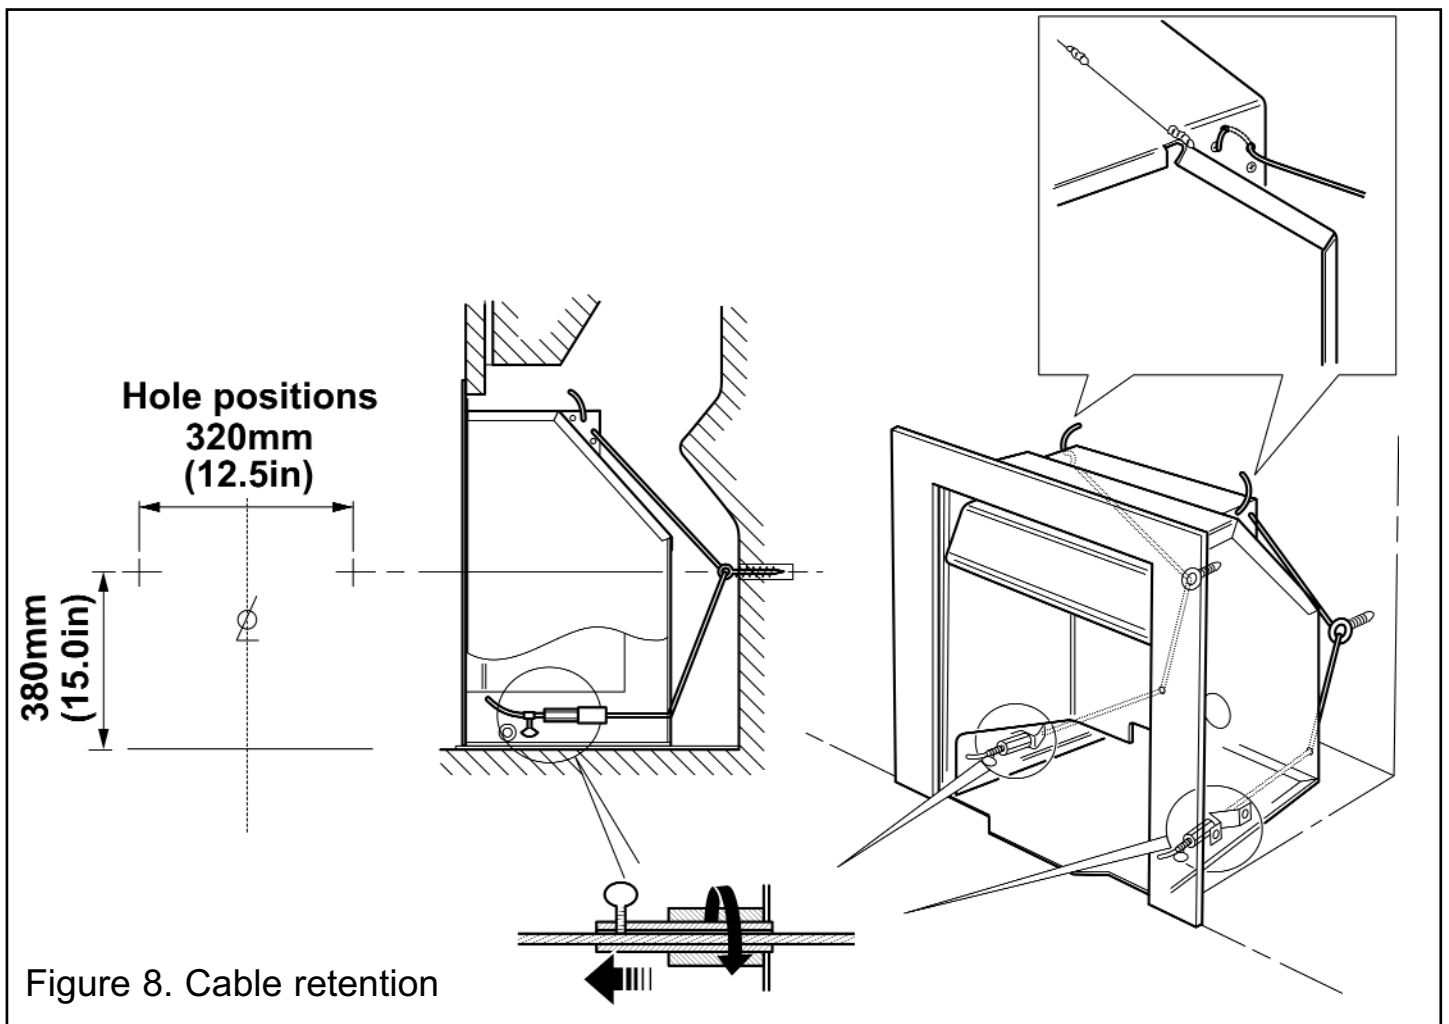

Figure 8. Cable retention
1. Drill two holes in the rear wall of the fireplace for the eyebolt plugs. The holes should be drilled in the positions shown in figure 8 using a suitably sized masonry drill for the wall plugs supplied. The holes should be equidistant each side of the centre line of the fireplace to ensure that the appliance finishes centrally in the opening when tension is applied to the cables.
**4.** The convection box has two holes at each end of the debris deflector (See figure 8). Insert one end of each cable (one cable each side) from the back through the lower of the two holes and return the end through the upper of the holes (See figure 8). Give the cables a pull so that they grip against the debris deflector sides.
**5.** Thread the cables through the eyebolts. Return the cables through the holes near the bottom of the convection box back panel and through the brackets near the bottom of the convection box sides (See figure 8).
**8.** Pull each cable taut. Push the cable retainers hard up against the brackets. Tighten the screws in the retainers so that they clamp the cables in position. Apply tension to the cables by turning the hexagonal adjusters by hand (See figure 8).